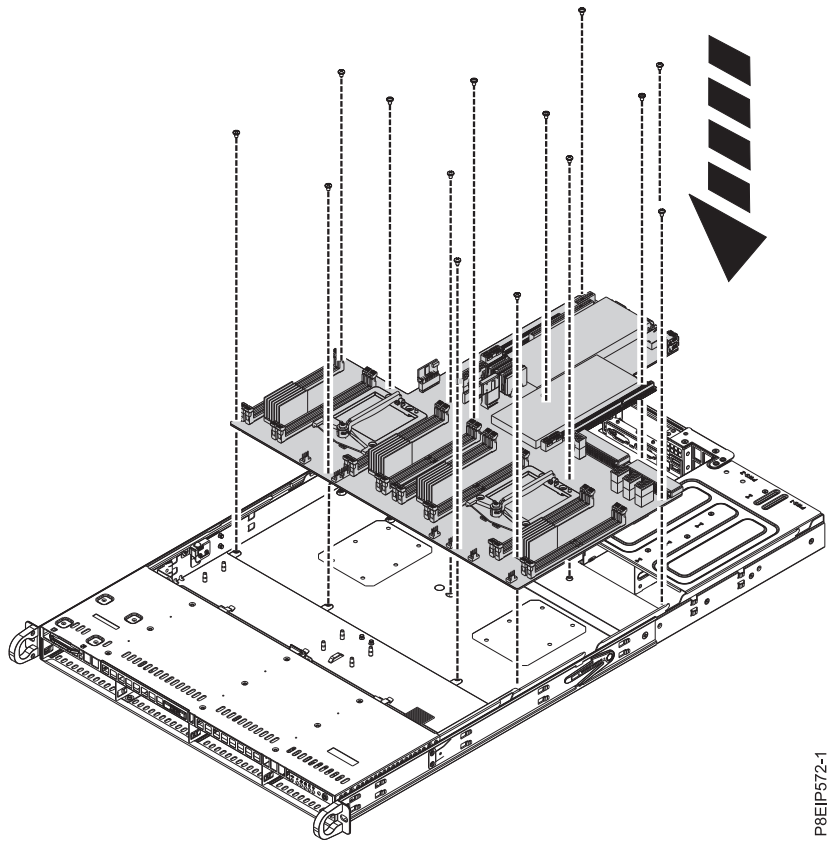

Figure 42. Replacing the system backplane
13. Moving the front cables out of the way, and carefully holding the processor heat sink, lower the system backplane into the chassis, then slide it slightly back. See Figure 42 on page 39.